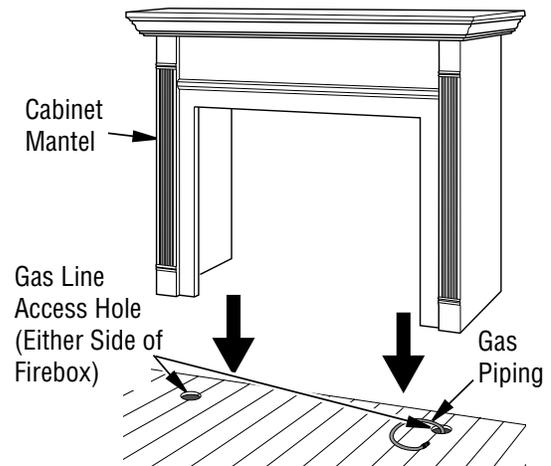

Figure 11 - Installing Cabinet Mantel (Mantel May Vary From Illustration)
2. Install gas piping to firebox location. See Gas Line Installation on Page 14. You may have to cut an access hole in the floor or wall to run gas line to firebox. Make sure to locate access hole so cabinet mantel will cover it when installed (see Figure 11).